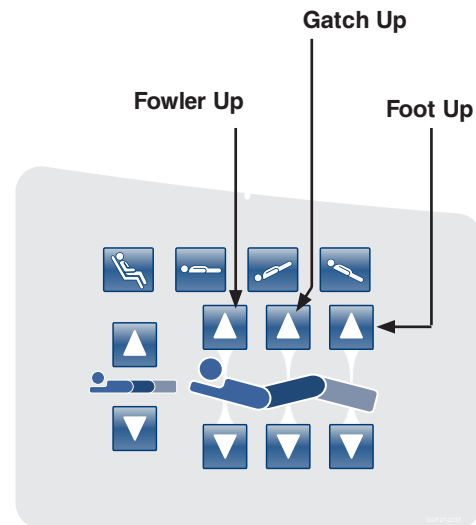

Figure 21: Head Siderail Control Panel - (Right Side Shown)
22. Press the **Fowler Up** button until the Fowler reaches the highest height, next press the **Gatch Up** button until the Gatch reaches its highest height, lastly press the **Foot Up** button until the foot section reaches its highest height (refer to Figure 21).